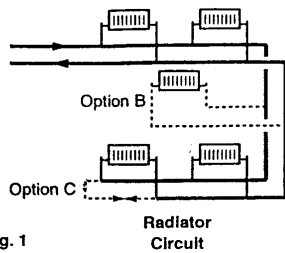
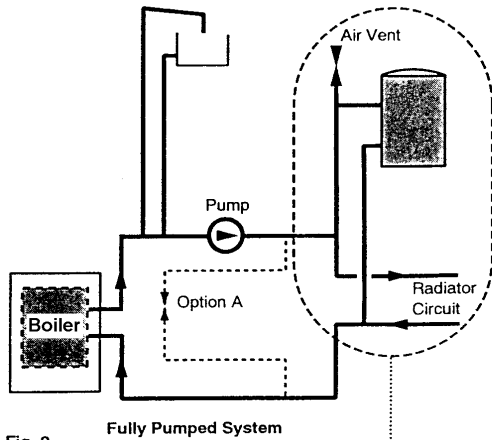

Fig. 1
Fig. 2
- a) For 30/40/50 PF a minimum of 8 metres of 22mm pipe, for 60/70/80 PF a minimum of 8 metres of 28mm pipe (measured between the boiler flow and return connections). It should be fitted with a lock shield valve opened at least 1 full turn to give a minimum flow rate of 8 litres/min (1.8 gal/min) (Option C, Fig. 1 & Option A, Fig.2).
- b) A radiator fitted with lock shield valves. The radiator output should be a minimum of 800 watts (2,700 Btu/h). Typically a convector type radiator with an area of 3750 cm² (4 sq ft) is adequate (Option B, Fig. 1).
- c) Any circuit that provides the same operating conditions as option A or option B (Figs. 1 & 2).